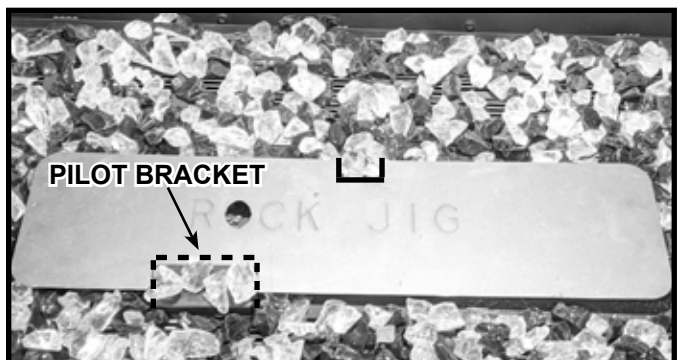

Figure 11.6 Place Rock Jig
- Place rock jig on glass media with lasered text "ROCK JIG" facing up. Ensure that the rock jig sits flush against the pilot bracket. See Figure 11.6.